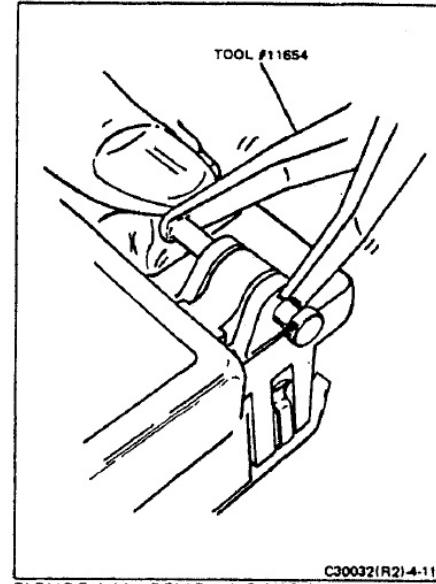

FIGURE 4-11 REMOVING MIRROR COVER/INNER FRAME HINGE PINS
- Using Special Tool #11654, remove the mirror-cover-to-inner-frame hinge pins (Figure 4-11).
7. Remove the mirror cover to inner frame hinge pins, using Special Tool #11654 (Figure 4-11).